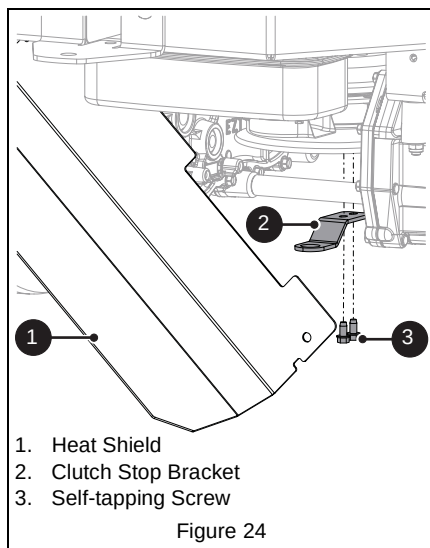

Figure 24
5. Remove two self-tapping screws from clutch stop bracket and remove bracket. See Figure 24.